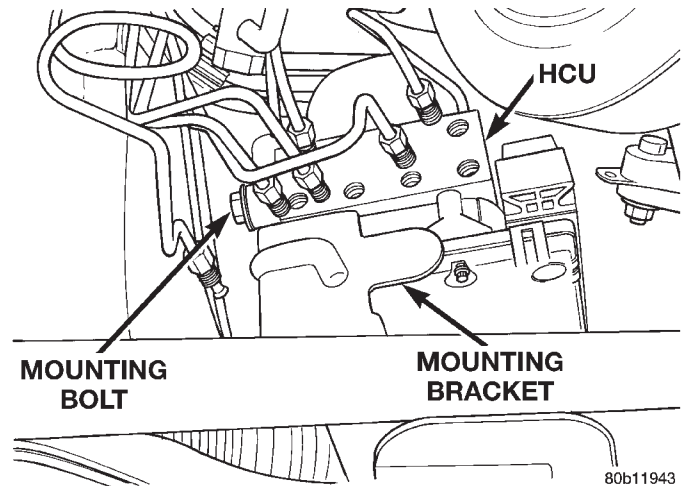
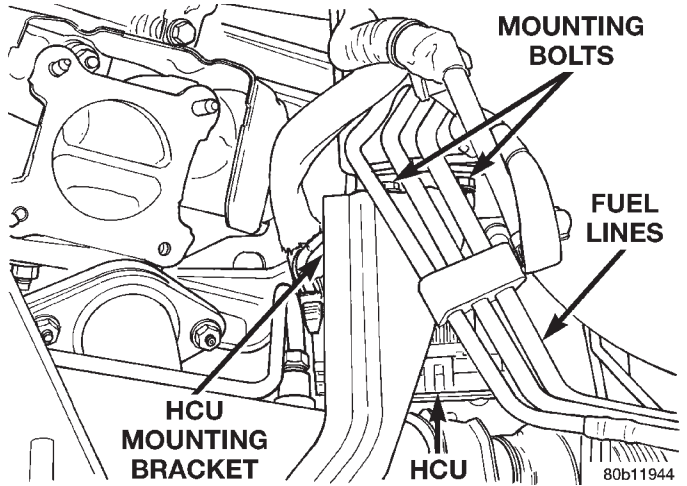

Fig. 31 HCU To Bracket Mounting Bolt
Fig. 32 HCU To Bracket Mounting Bolt
(13) Remove bolt (Fig. 31) attaching the side of the HCU to the mounting bracket.
(14) Remove the 2 bolts (Fig. 32) attaching the top of the HCU to the mounting bracket.
(1) Install the ICU back in the vehicle and on its mounting bracket using the reverse order of its removal.
(2) Install isolators, washers and attaching bolts, mounting the ICU to its mounting bracket (Fig. 31) and (Fig. 32).
(3) Tighten the 3 HCU mounting bolts to a torque of 11 N•m (97 in. lbs.).